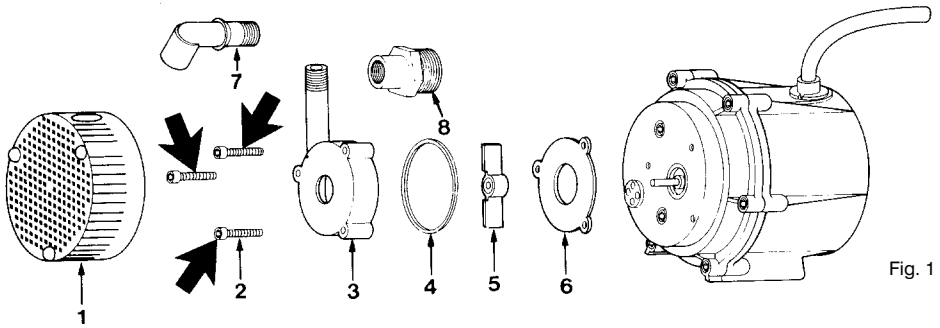

Fig. 1
2. Periodic cleaning of the pump parts will prolong the LIFE and EFFICIENCY of the pump. Refer to Fig. 1 for the assembly and disassembly of the pumping head.